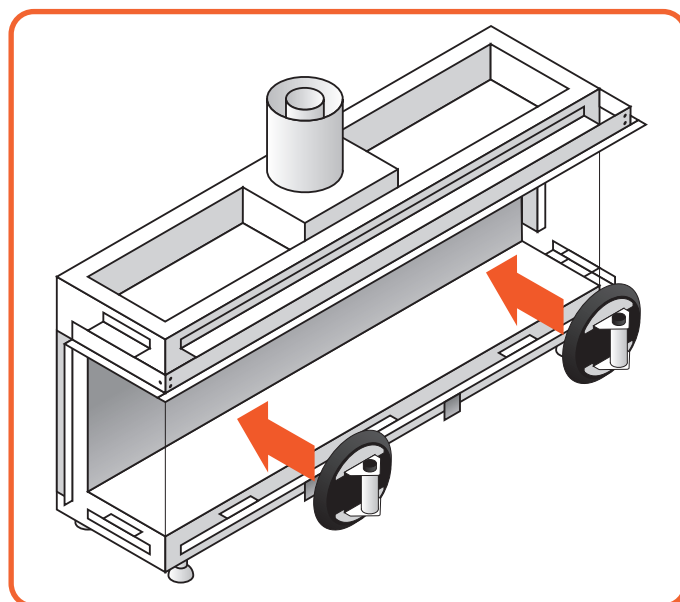

Figure 11.5 | Using the suction cup
- Put the section cup on the glass and make sure it is properly vacuumed, so it will not come off. (See Figure 11.5)